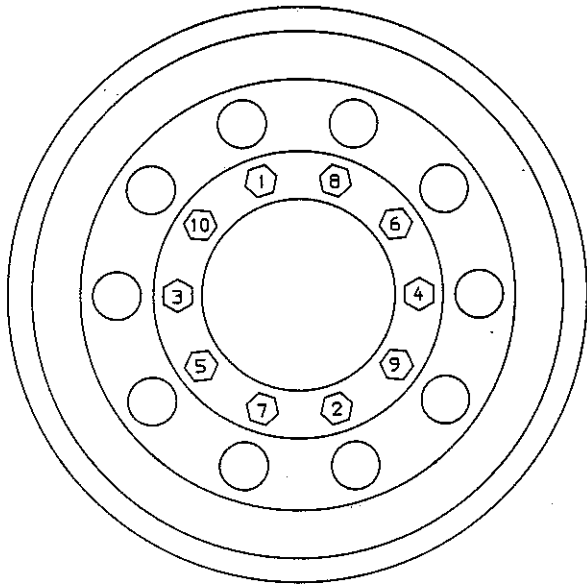

Figure 8-2. Lug Nut Tightening Pattern
12. Install spare and replace lug nuts. Tighten progressively in the sequence shown in figure 8-2 starting with # 1 and proceeding to # 10.